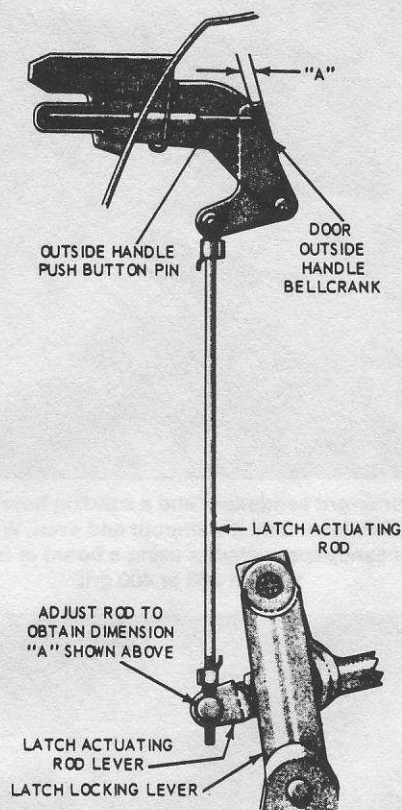

Fig. 12.11 Door latch actuating rod – adjustment (Sec 16)
- 3 Adjust the length of the rod to obtain the dimension 0.015 – 0.078 in (0.38 – 1.98 mm) at A in Fig. 12.11.